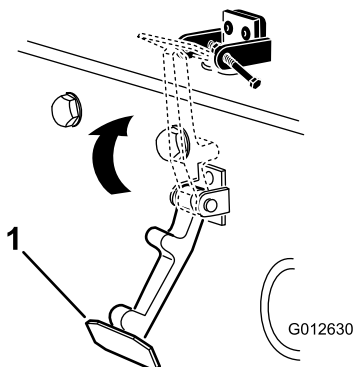

Figure 6
6. Hook the latch onto the hood latch bracket (Figure 6).